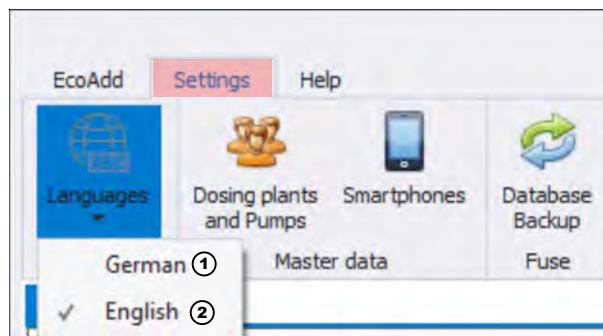

Fig. 41: Context menu: Language selection
- ⇒ The [Settings] Fig. 41 menu opens.
1. Select *[English]* in the context menu (Fig. 41, item 2).